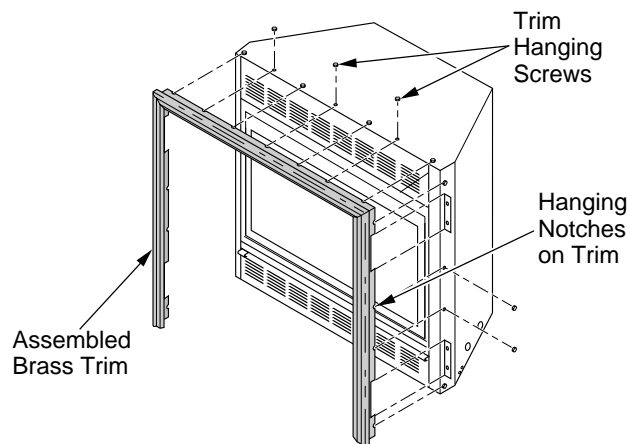

Figure 39 - Attaching Brass Trim to Fireplace (EFP33PR Shown)
8. Tighten trim hanging screws (#10 x 6.25 shoulder) into holes in cabinets. Place the assembled trim onto fireplace cabinet. Align hanging notches on trim with hanging screws on side of fireplace (see Figure 39, page 21). Push trim firmly into place, sliding hanging notches over hanging screws.